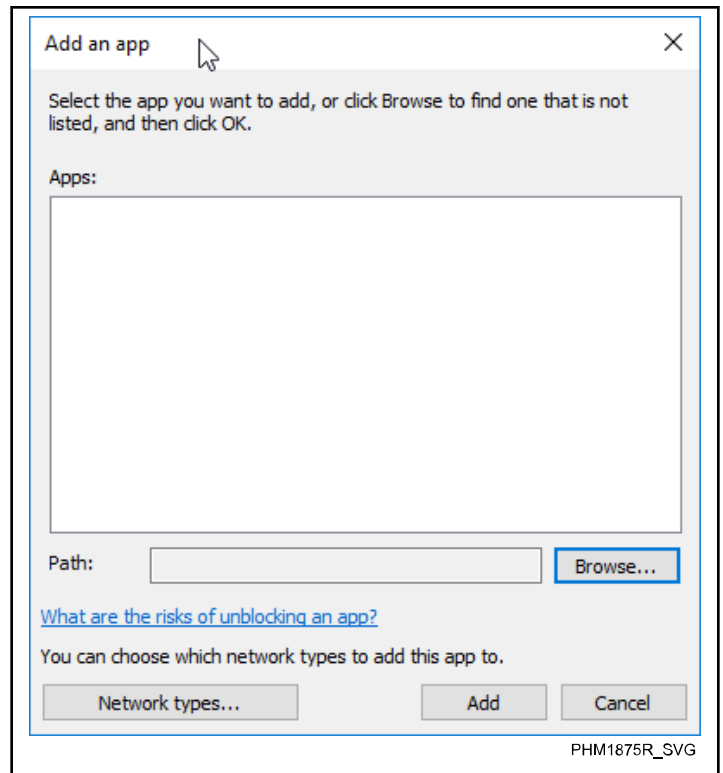

Figure 42
4. From the "Allowed Programs" window, click the **Allow another program** button. The "Add a Program" window appears. Refer to *Figure 42*.